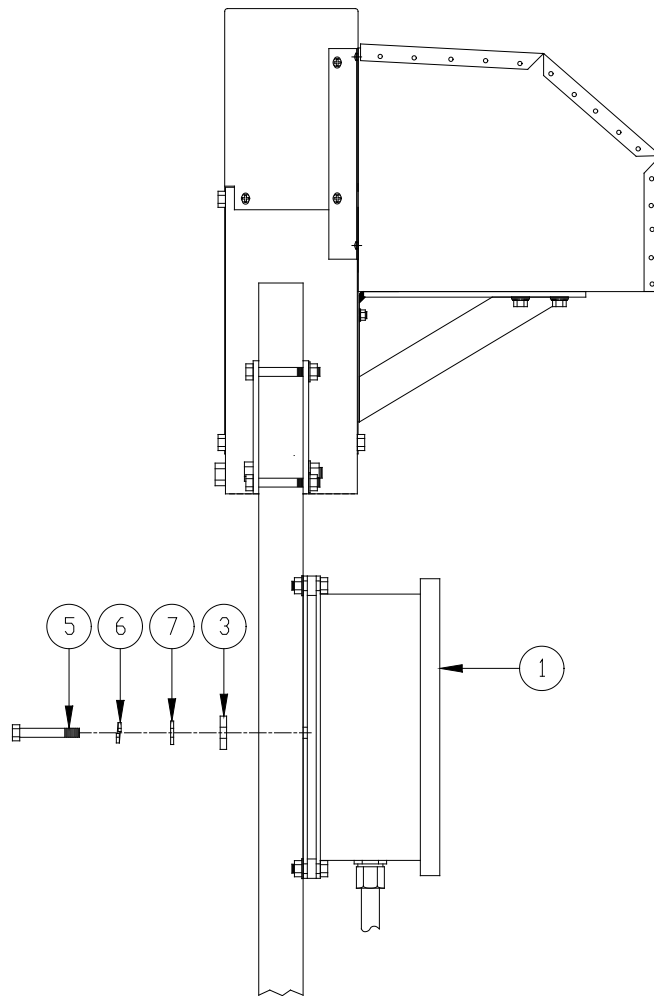

Figure 2-5
1. Refer to Figure 2-5. Mount the RC control box on the vertical leg A, using 2-hole plate (detail 3) and hardware.